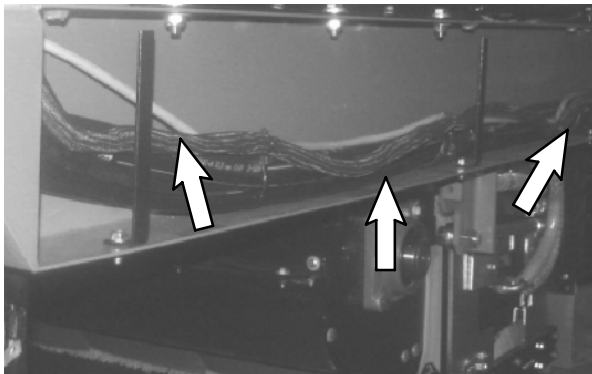

FIG. 24
40. Route the arrow stick cable assembly (2) along the main wire harness and into the service channel. Use cable ties (12) to secure the arrow stick cable assembly to the wire harness. Refer to Fig. 24.